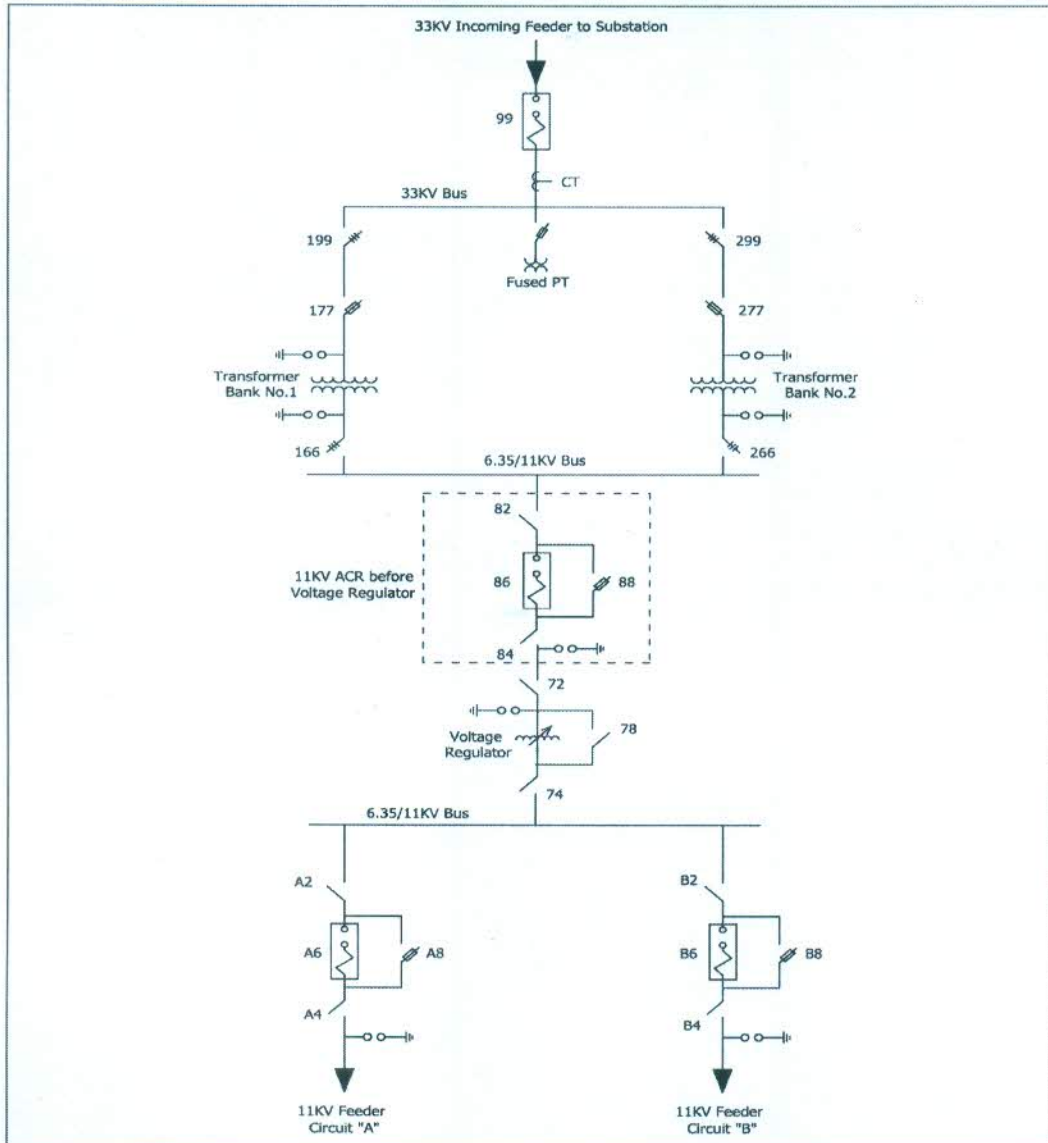

Figure 2-3: Single Line Schematic Diagram of 2 Transformer Bank Substation with 11KV ACR before Voltage Regulator
2.3.3 Two digit numbers shall be assigned to switches associated with three phase reclosers connected to the 11 KV **main bus**. (Figure 2-3)